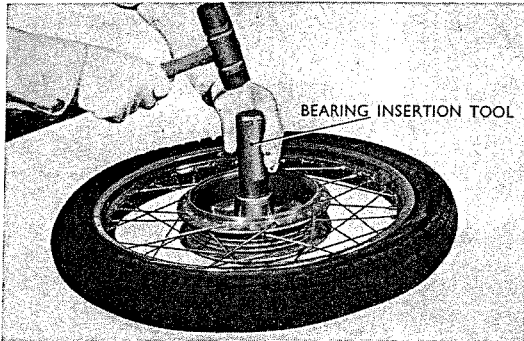

Fig. 4.77 Insertion of bearing
- Grease the 6302 R ball bearing and the inside of the front wheel hub and insert the spacing collar. Drive in the 6302 R ball bearing. (Refer to Fig. 4.77)